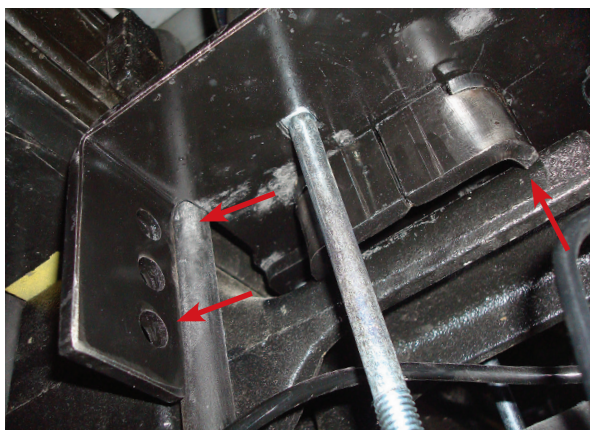

fig. D.16
1. With the vehicle supported by jack stands, drop the axle or raise the body so that the assemblies can be put into position in between the axle and frame. Set the driver's side and passenger's side assemblies into position so that the lower bracket cup nests on the jounce bumper strike plate. Push the lower bracket so that it is flush against the leaf spring stack and both flanges on the lower bracket are locked around the stock U-bolts (Fig. D.16).